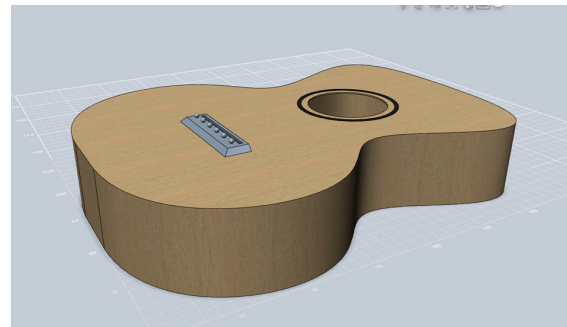

Figure 4-136 Extruding turns a 2D shape into a 3D object, and then mirroring creates two connected halves with perfectly symmetrical design features
8. When it asks you to select a solid, be sure you are selecting the entire body: click and drag over the entire object. Once selected, it will prompt you to choose a mirror plane; select the flat plane with no curves. It will disappear once you have mirrored the object (Figure 4-136).